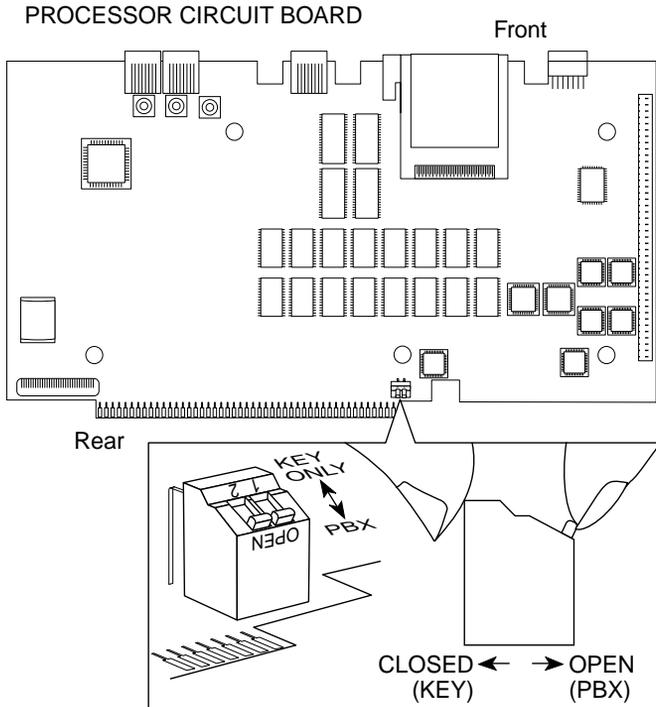

Figure 9-7. Changing the Key Mode Switch Position to Closed
- ▶ 8. Carefully support the dip switch assembly with your index finger, while moving the switch to the closed position. See Figure 9-7.